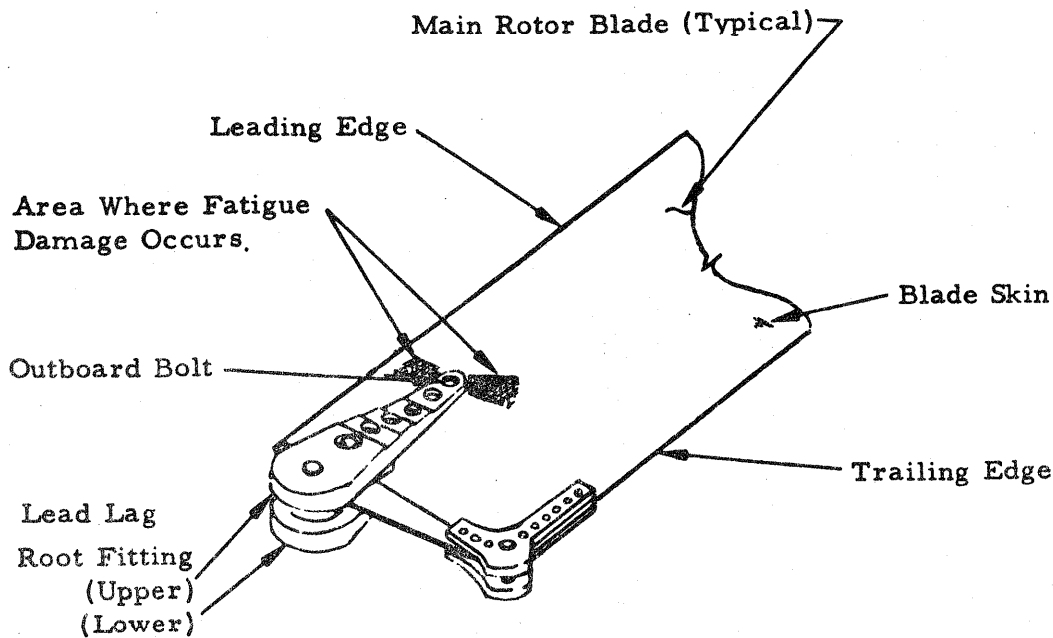

Figure 1. Main Rotor Blade Root Fitting Attachment
- b. With blade on droop stop, inspect upper and lower skin for cracks adjacent to and forward and aft of blade root fitting at outboard bolt holes (See Figure 1).